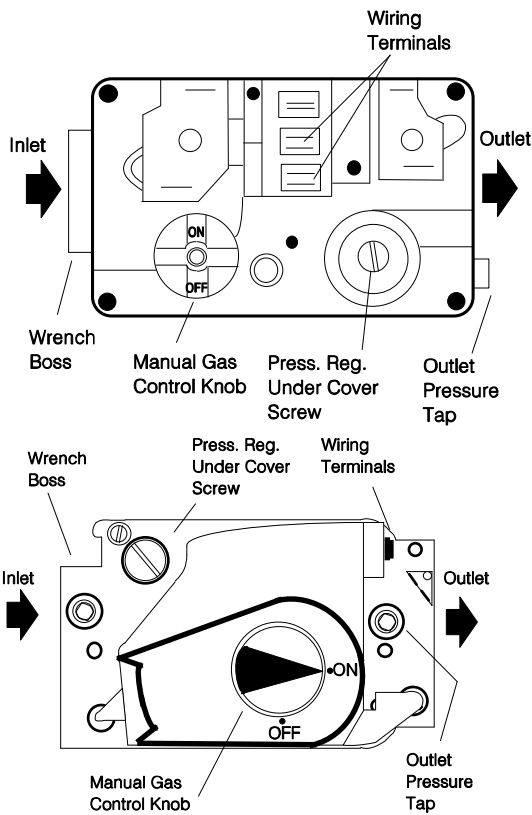

FIGURE 14 - GAS VALVES
2. Refer to Figure 14 for location of pressure regulator adjustment cap and screw on main gas valve.